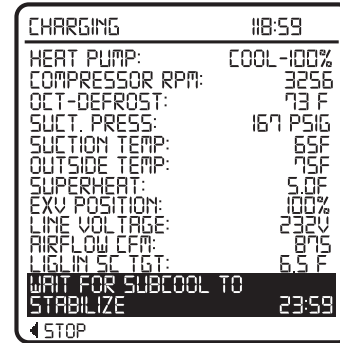

Fig. 10 - Liquid Line Subcooling Target
5. Wait for the specified stabilization time, depending on line-set length. Compare subcooling at liquid line service valve to Liquid Line Subcooling Target as shown CHARGING screen (LiqLin SC TGT) (see Fig. 10).